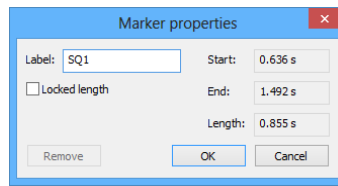

Figure 338 – Marker properties dialog
4. Release the left mouse button. The **Marker properties** dialog is automatically displayed (see Figure 338).